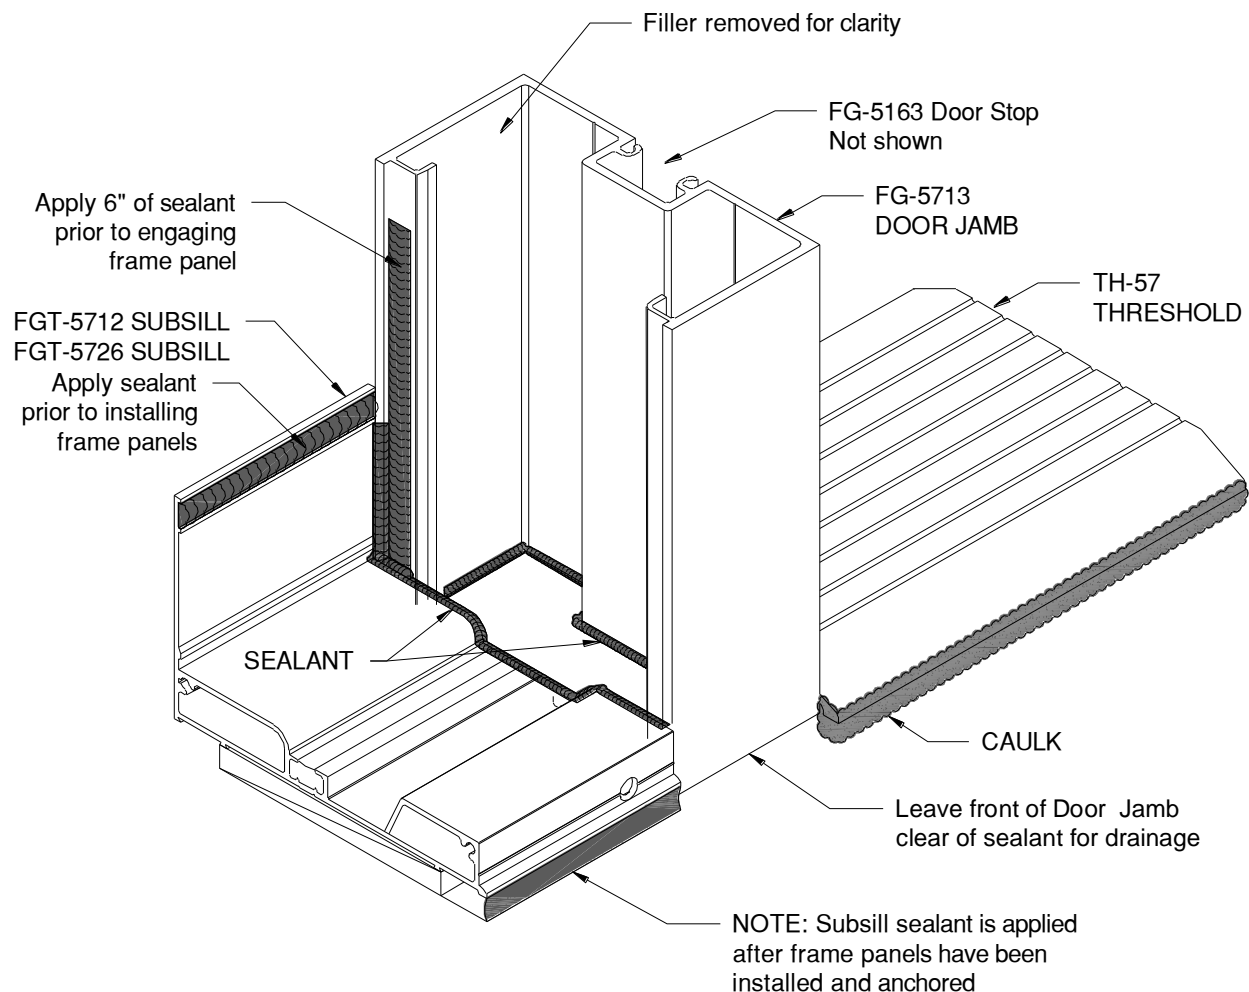

Figure 16: Door Jamb and Subsill Sealant Application at ArmorDefend™ Plus
- 6.7 Once door is square and anchored, seal the base of door frame to substrate at sides and interior-side of **FG-5713** Door Jamb. Reference *Figure 16*.
- 7.7 Once door is square and anchored, seal the base of door frame to substrate at sides and interior-side of **FG-5713** Door Jamb. Reference *Figure 16*.
- 7.8 Seal the inside of the Door Jamb to the substrate per *Figure 16*, leaving the front face unsealed for drainage.